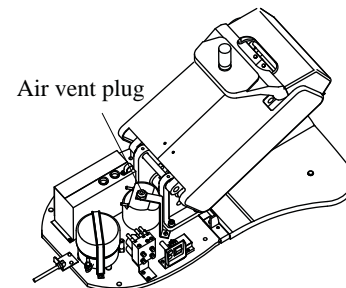

Fig 4-2-6
- 10) Locate the red warning tag which is attached by a string to the rubber air vent plug in the pump reservoir. See Fig 4-2-6.